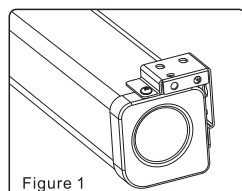

Figure 1
Using a tape measure, measure the distance between the two keyholes on the casing (figure 1) . According to the measurement, use the drill to drill identical holes of the appropriate size on the ceiling (use a smaller drill bit than the actual screws) and ensure that it is level (figure 2 & 3) . Screw in the hook screws (not provided), and lift the screen into the hook screws to hang (figure 4). To ensure that the screen is level, use a level to check (figure 5).
2. There are two way for wall brackets to fix on the housing. As you can see on the figure 1, which is our normal fixed way (namely factory set). While the other fixed way is to interchange the left and right wall brackets, and then fix onto the housing (namely functional installation way, as figure 2).
Using a tape measure, measure the distance between the two keyholes on the casing (figure 1). According to the measurement, use the drill to drill identical holes of the appropriate size on the wall (use a smaller drill bit than the actual screws) and ensure that it is level (figure 2 & 3). Screw in the appropriate screws, either 5 x 40 by itself for wood walls or with anchors for drywalls, leaving enough space at the end to hang the casing (figure 4). To ensure that the screen is level, use a level to check (figure 5).
Using a tape measure, measure the distance between the two keyholes on the casing (figure 1). According to the measurement, use the drill to drill identical holes of the appropriate size on the ceiling (use a smaller drill bit than the actual screws) and ensure that it is level (figure 2 & 3). Screw in the hook screws (not provided), and lift the screen into the hook screws to hang (figure 4). To ensure that the screen is level, use a level to check (figure 5).